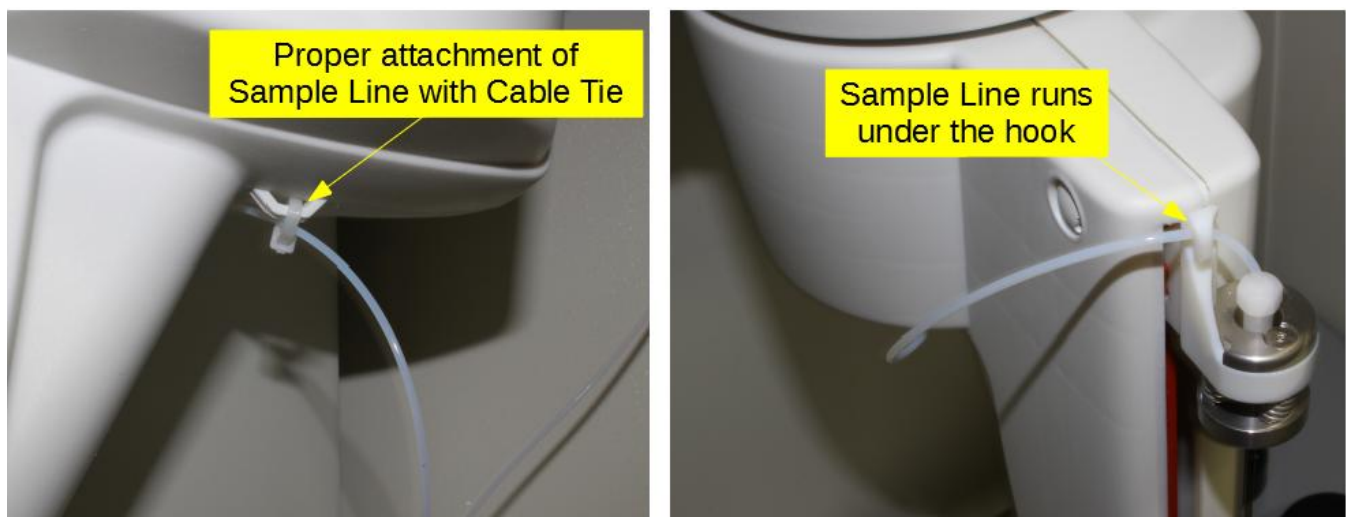

Figure 4: *Sample Line* correctly routed through the *Cable Tie* and under the tubing hook.
- Pull the *Sample Line* through the cable tie loop, moving from right to left so that the *Sample Line* is on the left side of the *Sampler Arm*. Make sure the *Sample Line* is positioned under the tubing hook just above the *Sipper Tube* as seen in **Figure 4**. Attach the *Sample Line* to the top of the *Sipper Tube* using the *Short Nut* and the *1/16" Tan Ferrule* (included with the *Sample Line*) and torque to **15 in-oz**.